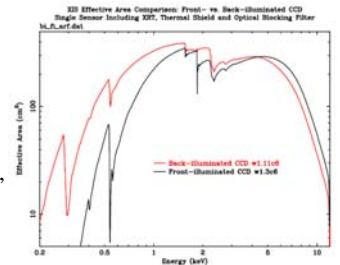

Figure 3: Quantum efficiency of the FI CCD (black) and the BI CCD (red).
3. Back-side illuminated (BI) CCD
One of the major changes from the former XIS of Astro-E1 to the new XIS of Astro-E2 is the BI CCDs. Since X-rays reach to a depletion layer without passing gate structures, the quantum efficiency (QE) of the BI CCDs in the low energy band is larger than that of the FI CCDs. In the high energy band, since the depletion layer of the BI CCD is a little thinner than that of the FI CCD, the BI CCDs have a smaller QE than the FI CCDs (Figure 3).